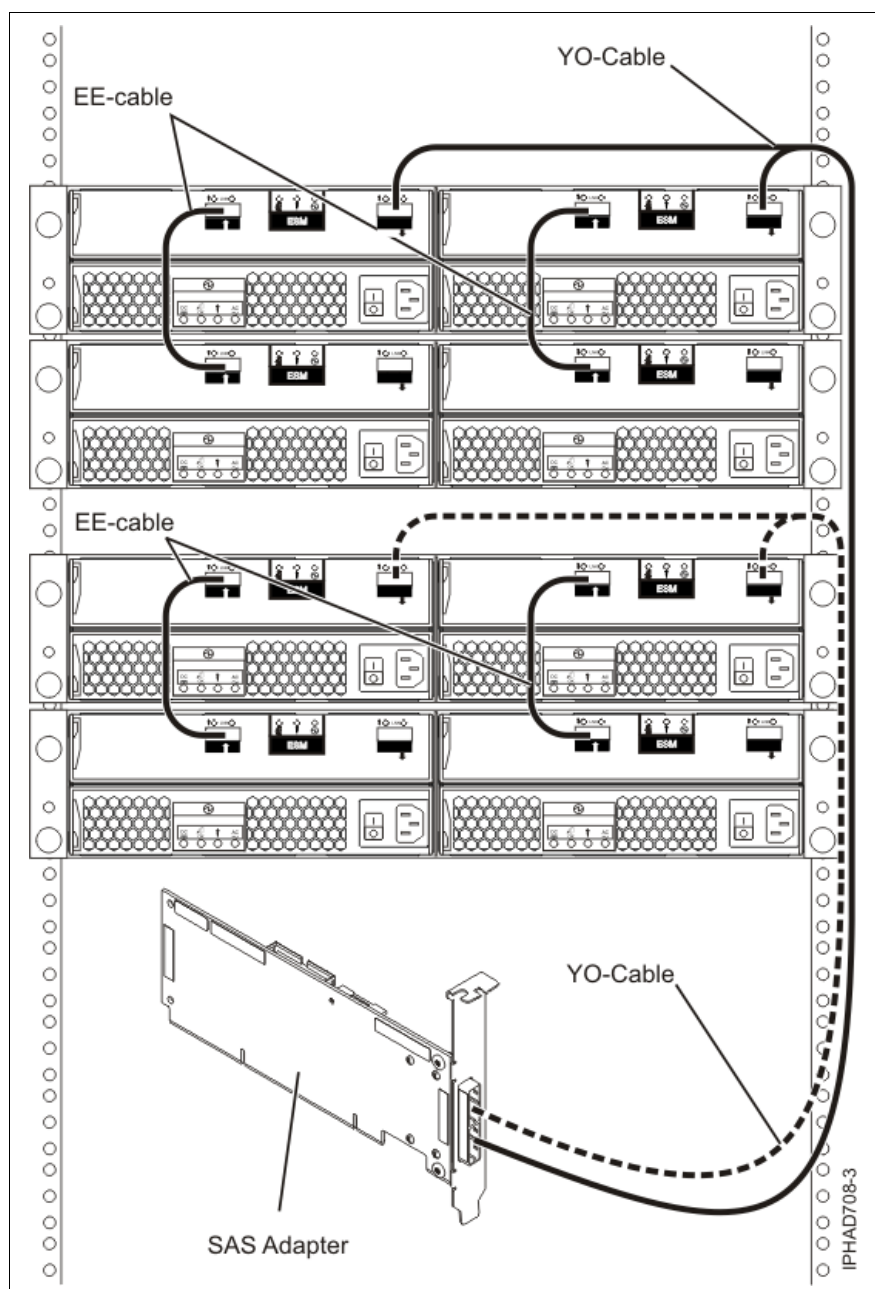

Figure 6-5 Maximum attachment of EXP 12S on one adapter
Figure 6-5 shows a maximum configuration using four EXP 12S drawers on one adapter feature.
- ▶ You must understand the expected number of disk I/O operations per second in your working environment before considering the configuration shown in Figure 6-5. Spreading disk drives across multiple adapters and using other higher capacity (such as with large write caches) adapters might be required.